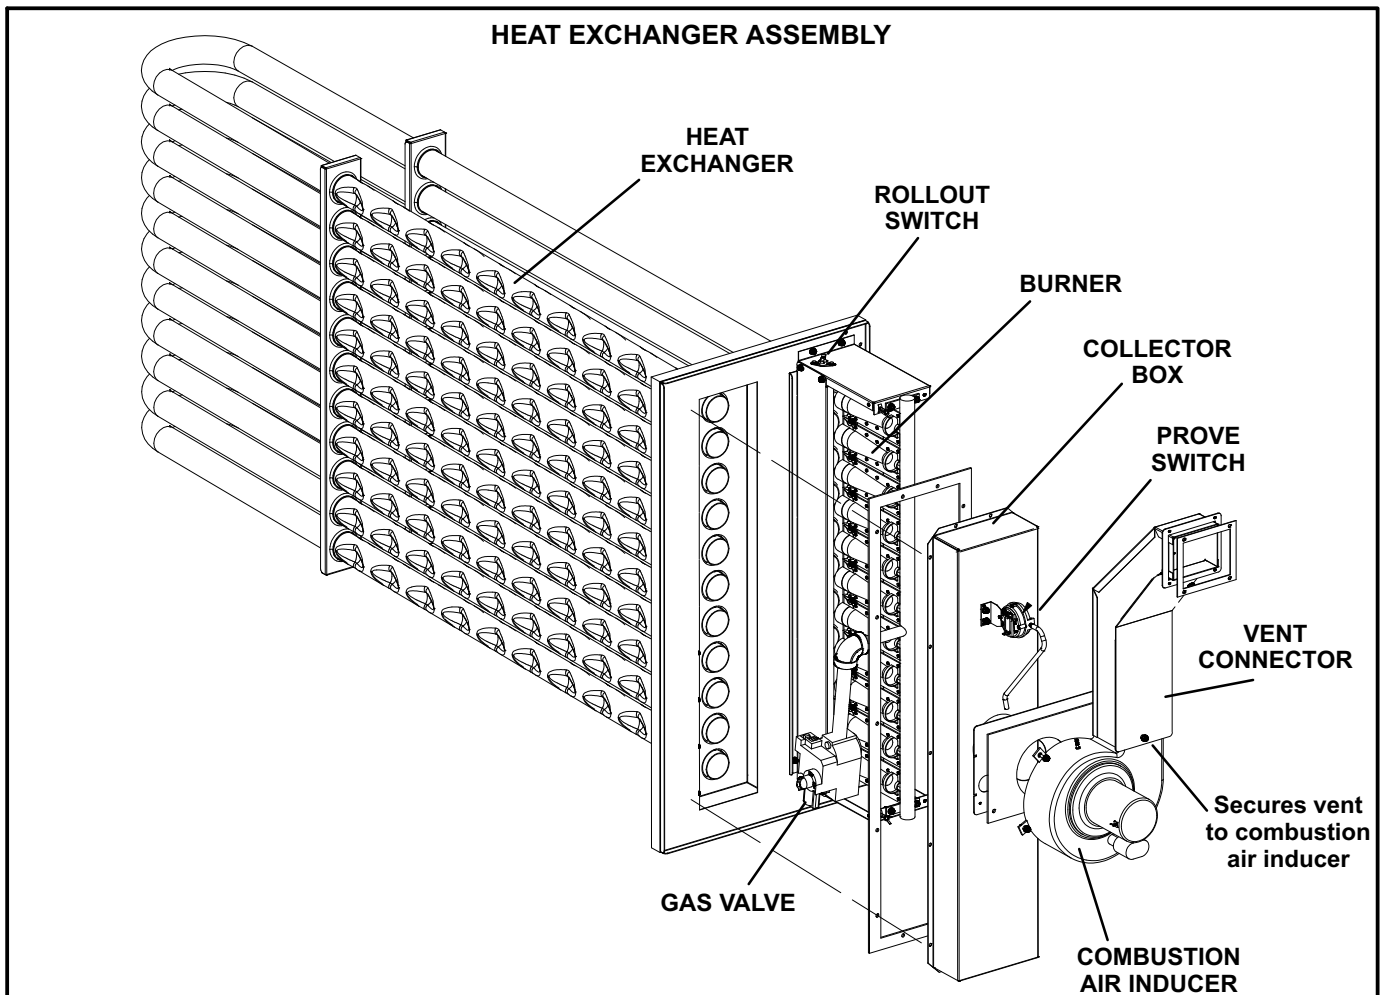

FIGURE 3
Annually, before heating season, inspect the combustion air louvers, vent cap, heat exchanger, burners and combustion air inducer for corrosion, deterioration or deposits of debris. Remove any obstructions or blockage. See figure 3.
- 3- Remove and retain the screws securing the combustion air inducer to the flue box. Remove and retain the screw securing the combustion air inducer to the vent connector. See figure 3.